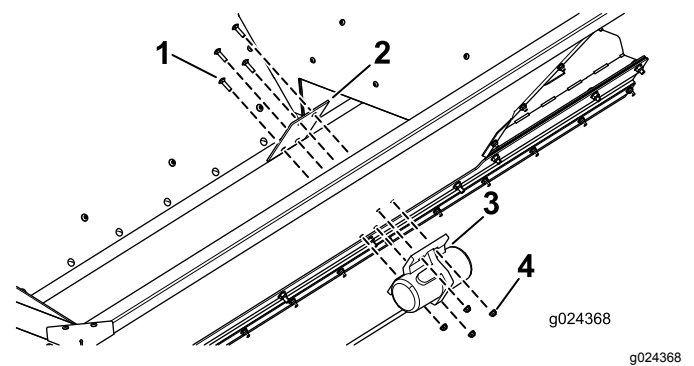

Figure 7
2. Secure the mounting plate and the vibrator to the hopper using 4 carriage bolts and 4 nuts as shown in Figure 7.